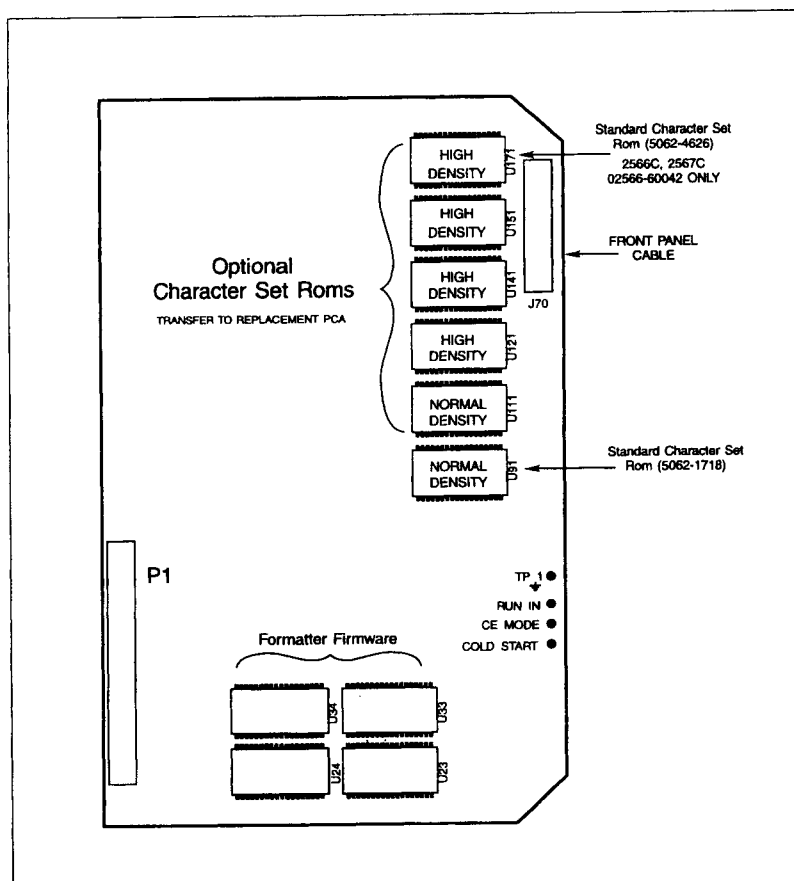

Figure 6-12. Formatter PCA
- a. Switch the printer offline and the ON/OFF switch to the OFF (0) position.
- f. Transfer symbol set ROMs to the new Formatter PCA. Assure that the high density (marked "HD") ROMs are placed in high density sockets and that the normal density (marked "ND") ROMs are placed in the normal density sockets (see Figure 6-12).